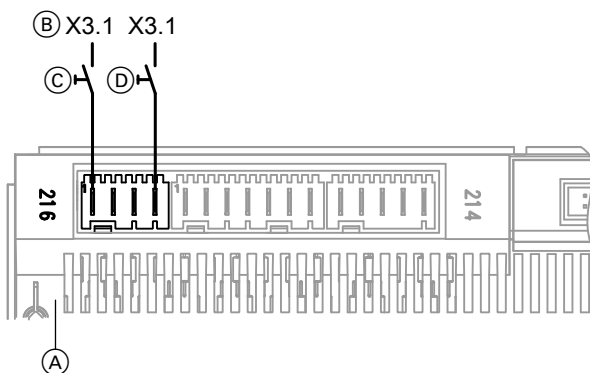

Fig. 30
- To the heat pump control unit as shown in Fig. 30